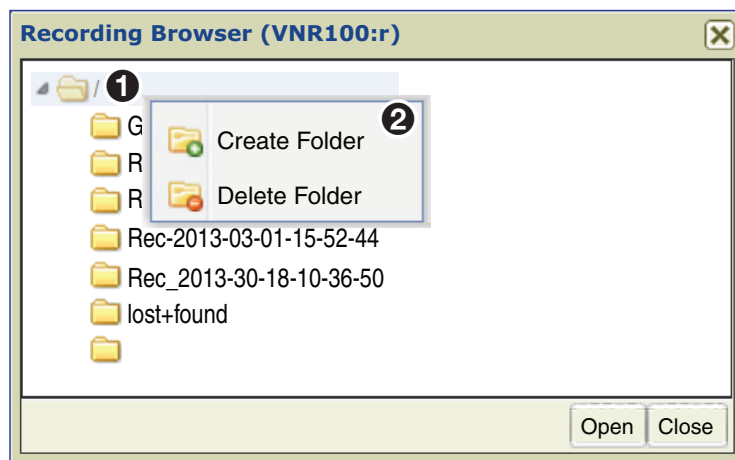

Figure 90. Recording Browser Window, Create Folder
4. The Recording Browser dialog box opens (see figure 90).